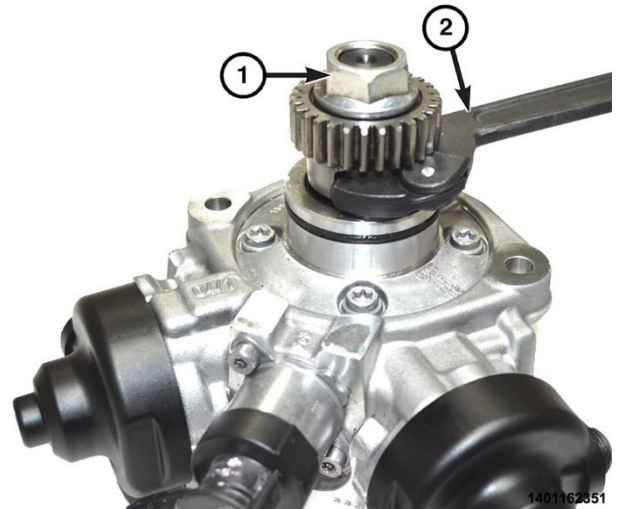

Figure 143 – Nut with Spanner Wrench
- 83. Using a commercially available spanner wrench (2) such as Blue Point APS35IB or equivalent, tighten the nut (1) to 50 N·m (37 ft. lbs.) (Figure 143).